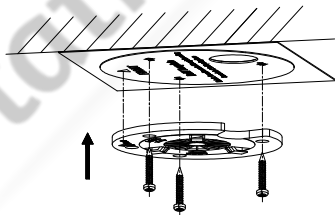
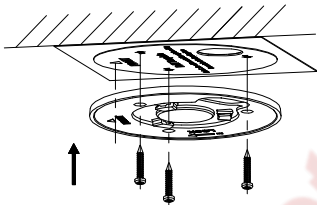

Figure 2-34 For DE2xxx Series PTZ Camera
Figure 2-35 For DE2xxxI Series (IR) PTZ Camera
4. Attach the base plate to the ceiling and secure it with the supplied three self-tapping screws by aligning with three screw holes in the ceiling, and the front arrows on the drill template and base plate should be aligned together as well, as shown in Figure 2-34 and Figure 2-35.